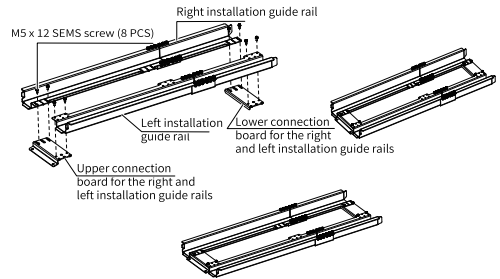

Figure 9-6 Assembly of the guide rails
- a. Assemble the guide rails as shown in "Figure 9-6 " on page 128 .